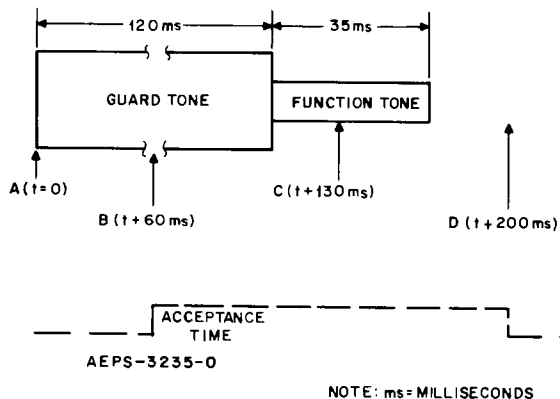

Figure 1.
3.1.1 In all tone control applications, the tones are sent from the control point in a particular timing sequence (tone control format). All tones must be preceded by a 2175-Hz guard tone. The guard tone is used to activate circuits which detune a 2160-Hz band pass filter in the guard tone decoder module. With the 2160-Hz band pass detuned, all tones can pass through the guard tone decoder and then be routed to their respective decoders. The tone control format is shown in figures 1 and 2.